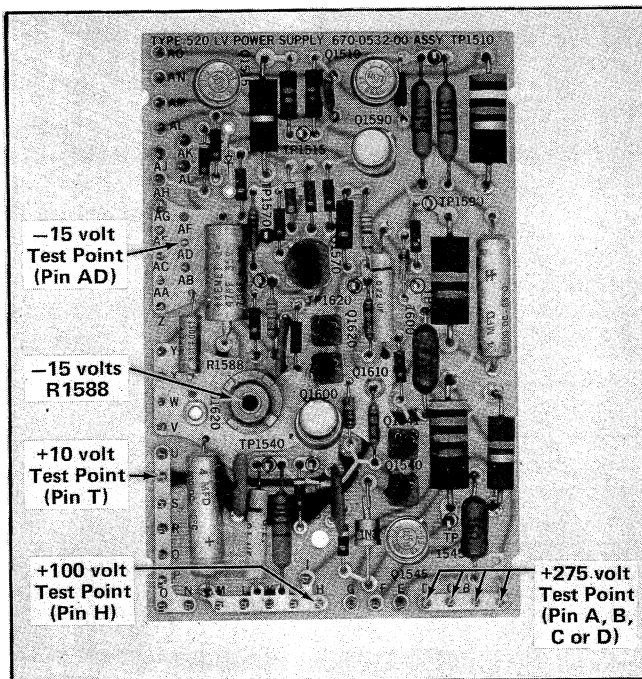

Fig. 6-2. Low-voltage power supply board voltage test point and adjustment locations.
a. Connect a precision DC voltmeter between ground and low voltage power supply board pin AD; see Fig. 6-2.
c. Adjust— —15 volts control, R1588 (see Fig. 6-2), for exactly —15 volts.
c. Move the DC voltmeter connections to ground and low-voltage power supply board pin T; see Fig. 6-2.
e. Move the DC voltmeter connections to ground and low-voltage power supply board pin H; see Fig. 6-2.
g. Move the DC voltmeter connections to ground and low-voltage power supply board pin A, B, C or D; see Fig. 6-2.
b. Connect a 1X probe, from the test oscilloscope vertical input to the appropriate power supply test point as shown in Figs. 6-2 and 6-3.